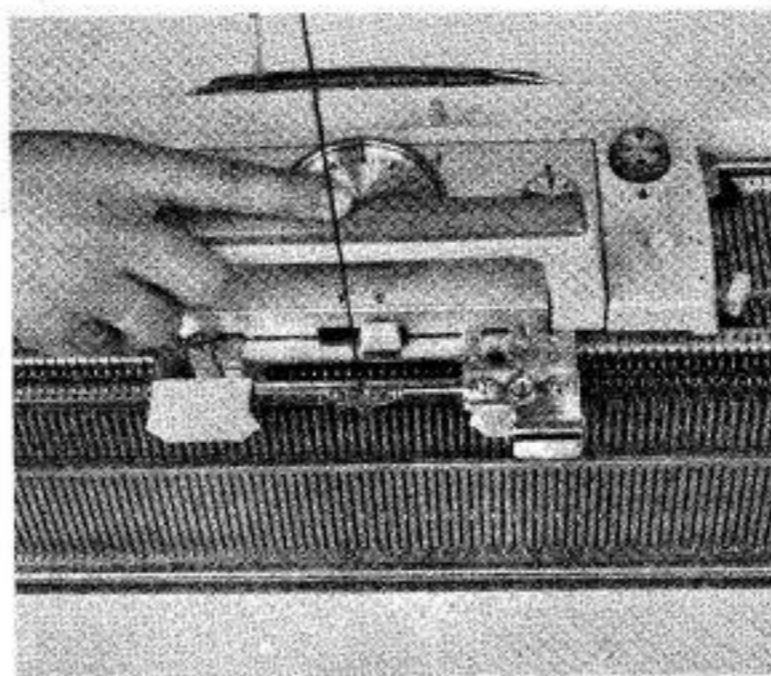

Fig. 43
8. Move the machine carriage across to the right from left—see Figs. 43 & 44—and back to left from right.